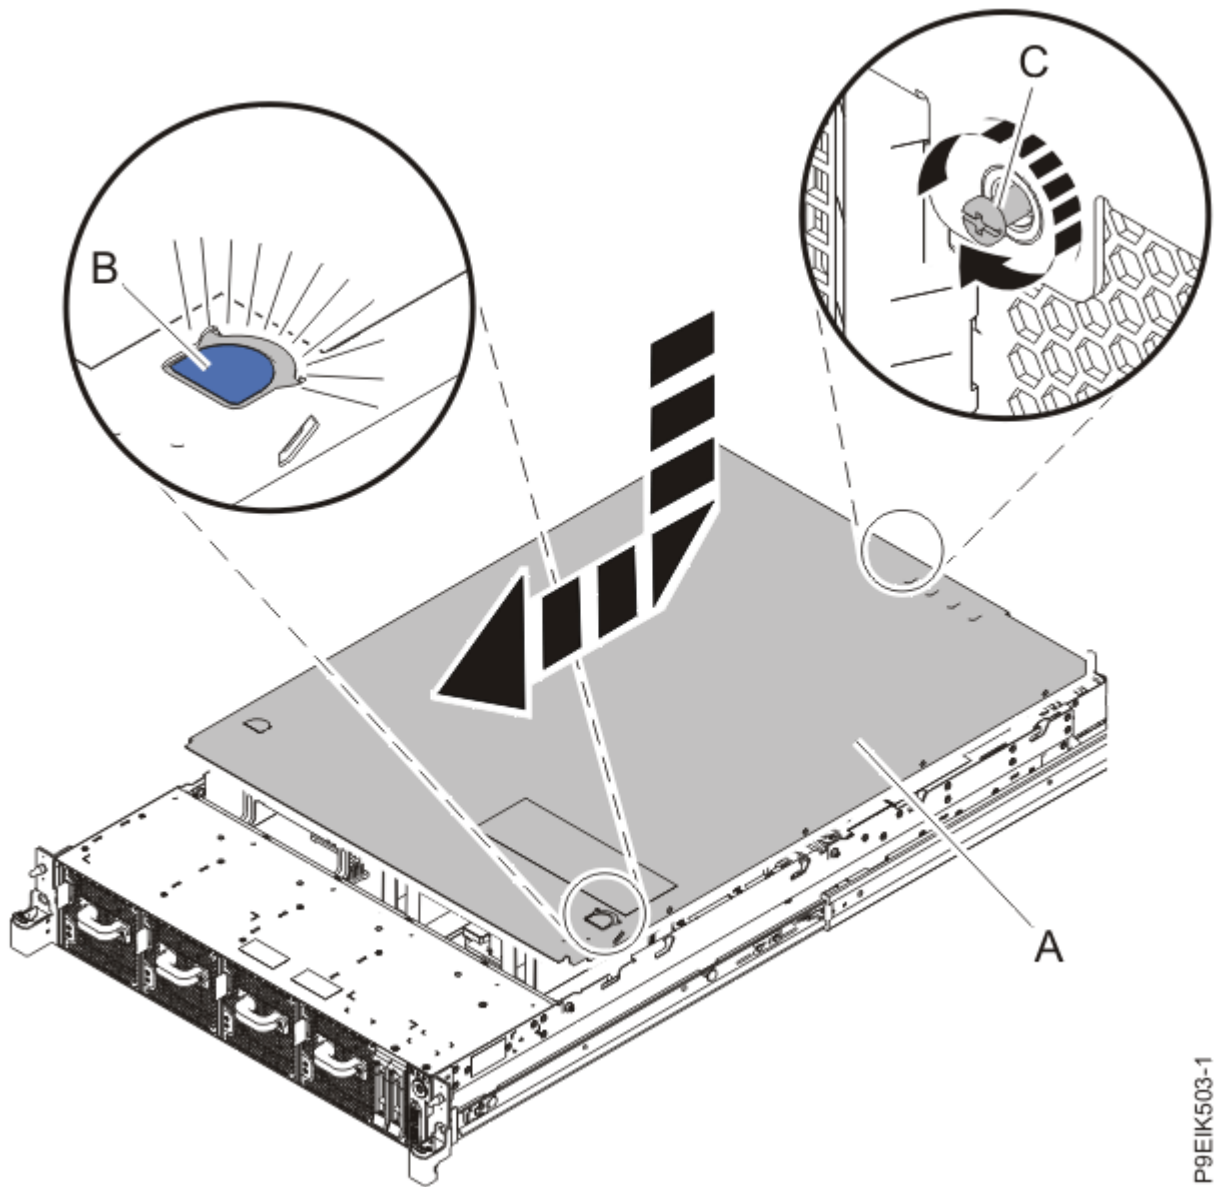

Figure 47. Installing the cover
1. Place the cover **(A)** on the system unit such that the alignment pins on the cover are aligned to the slots on the chassis. Slide the cover to the front of the system until the blue release latch **(B)** locks in to place as shown in Figure 47 on page 96.
2. Fasten the cover screw (C) at the rear of the cover.